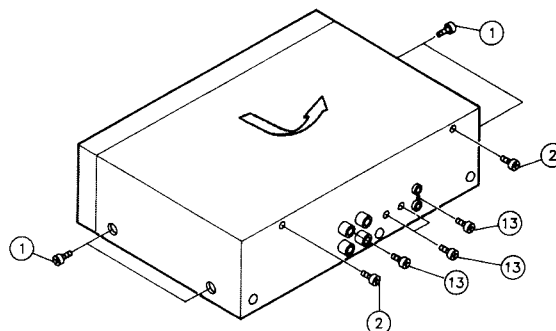

Fig. 2 - 1
1. Remove four screws ① retaining the top cover from both side.
2. Remove two screws ② retaining the top cover from the back side.
3. To remove the top cover ,slide in direction of allow and lift away (refer to Fig. 2 - 1).
#### ◆ Front panel assembly (Fig. 2 - 2)